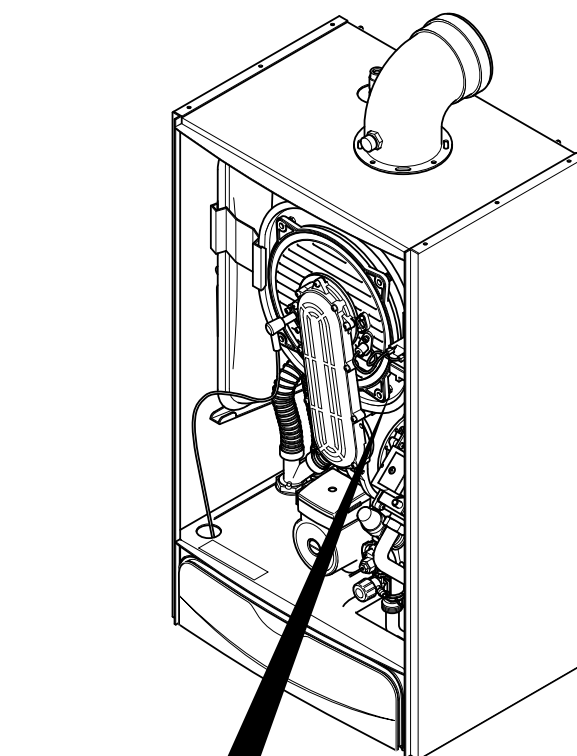

Fig. 53
1. Disconnect the two feed wires, earth wire and electrode lead noting their positions (Fig. 53).